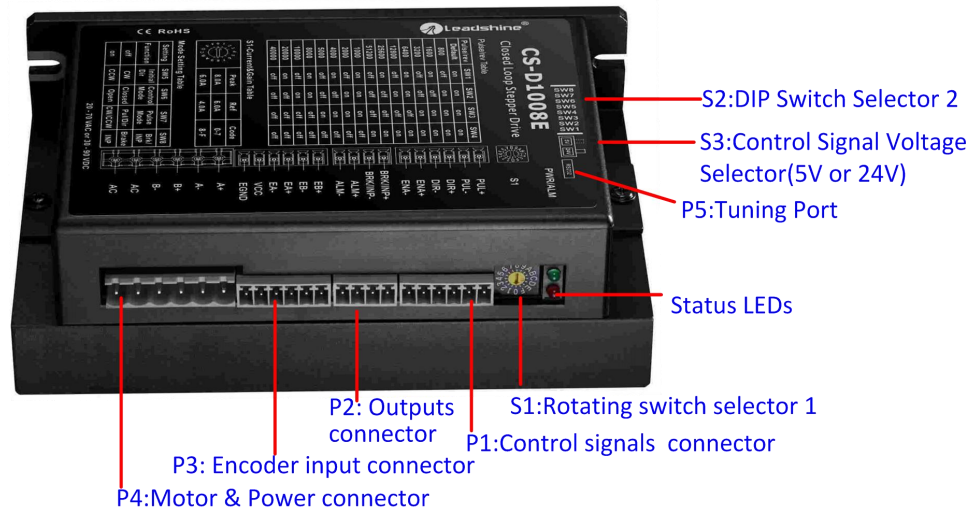

Figure 2: CS-D1008E connectors
A CS-D1008E closed loop stepper drive has 5 connection blocks from P1 to P5 (see figure 2).
The P1 connector in Figure 2 contains connections for control signals.
(2) Control signal amplitude is 24 V as default. If it is 12 V, please set the S3 (Figure 2) selector switch to 5 V first, then connect 1K Ω resistor; If it is 5V, please set the S3 to 5V.
The P3 connector in Figure 2 is for encoder signal connection. Refer to the following table for details.
The P4 connector in Figure 2 is for motor and power connection. Refer to the following table for details.
The P5 connector in Figure 2 is a RS232 communication port for PC connection. Refer to the following pin definitions. CS-D1008E has a tuning port with RS232 to modify the drive parameters, it is just used to modify parameter, not for equipment control because neither precision nor stability is sufficient. If you need a field bus drive, use a Leadshine RS485 or EtherCAT type drives